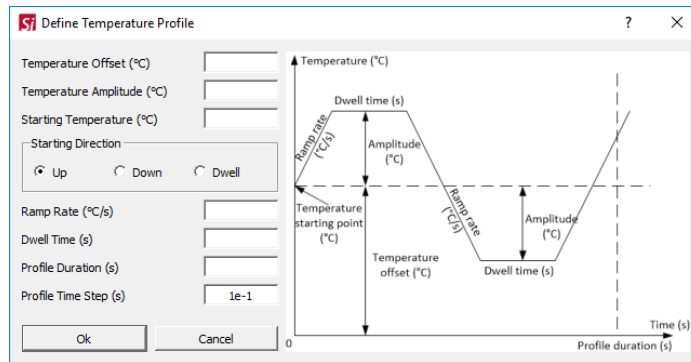

Figure 7: Temperature profile definition window
5. Select the button for temperature profile definition. Once selected, the SW launches a new window (see figure 7) providing controls for profile definition: